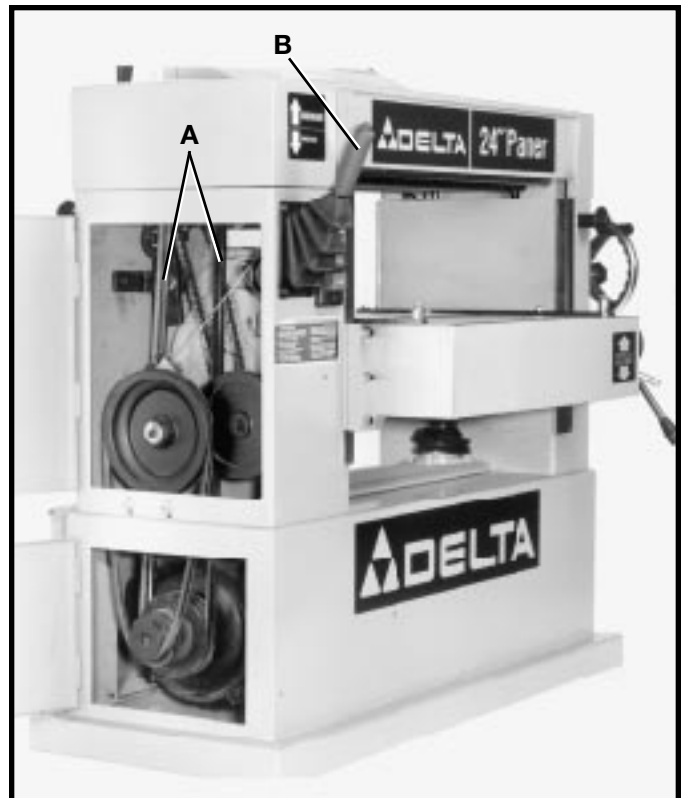

Fig. 28
Proper belt tension is when there is approximately 1/4 deflection, using light finger pressure on the drive belts (A) Fig. 28, midway between pulleys. If an adjustment is necessary, proceed as follows:
2. Disengage feed roll lever (B) Fig. 28.